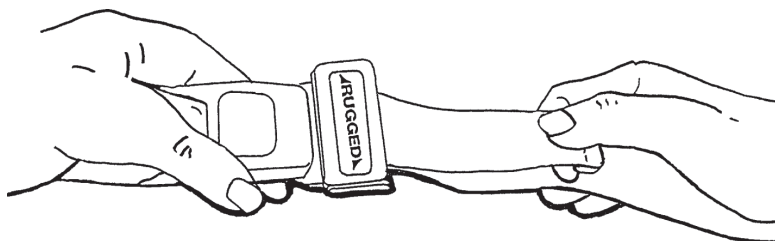

Figure 35 - Shortening the Safety Restraint
- **To shorten the restraint**, grasp the hemmed tab and pull the webbing back through the tang until the required tightness is achieved (see Figure 35).